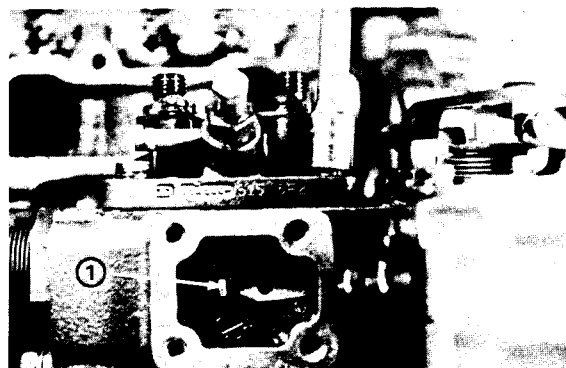

Figure 45
3. Remove the tie rod cover. Remove the tie rod clip and disconnect the tie rod from the injection pump control rack (Fig. 45).
4. Remove the four (4) injection pump mounting bolts. Remove the injection pump from the cylinder block. Make a note of the number and thickness of the adjusting shims under the pump. (The shims determine the injection timing.)